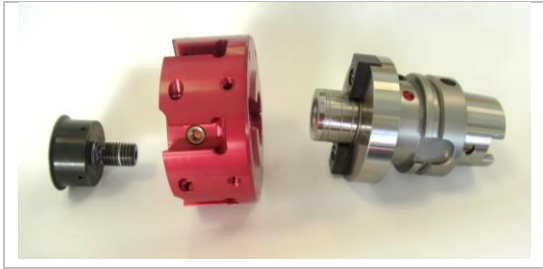

Figure 8: Removing tool
3. Remove the tool from the hydraulic expanding arbor. Observe the operating instructions of the tool manufacturer (see „Figure 8: Removing tool“).